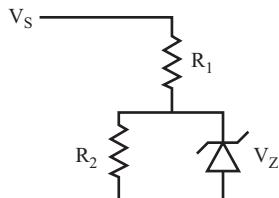

FIGURE 12.2
20. For the circuit shown in Figure 12.2, $V_s = 100$ volts, $R_1 = 7.2 \text{ k}\Omega$, $R_2 = 4 \text{ k}\Omega$, and $V_z = 28$ volts. Find the current through the zener diode, I_z . _____
- 21.** For the circuit in Figure 12.2, $V_s = 10$ volts, $R_1 = 1 \text{ k}\Omega$, $R_2 = 10 \text{ k}\Omega$, and $V_z = 6.3$ volts. Find I_z . _____